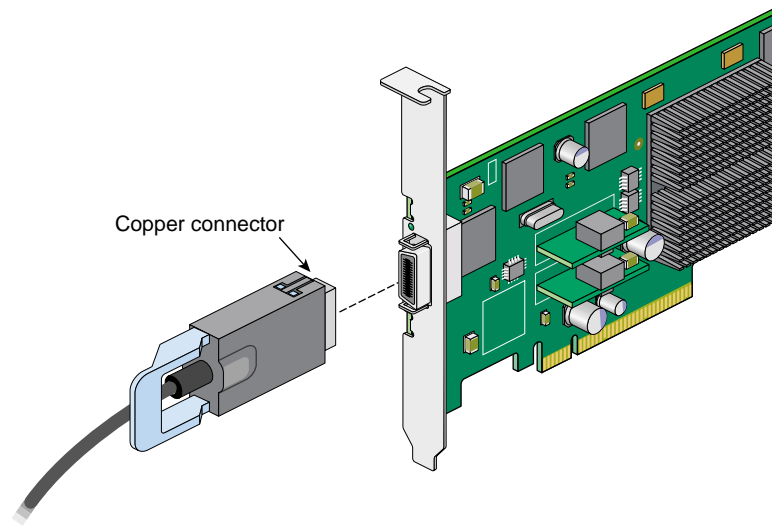

Figure 2-2 Connecting the Copper Cable
1. Insert the connector on one end of the copper cable into the adapter, as shown in Figure 2-2. Ensure that the connector is inserted completely into the jack.